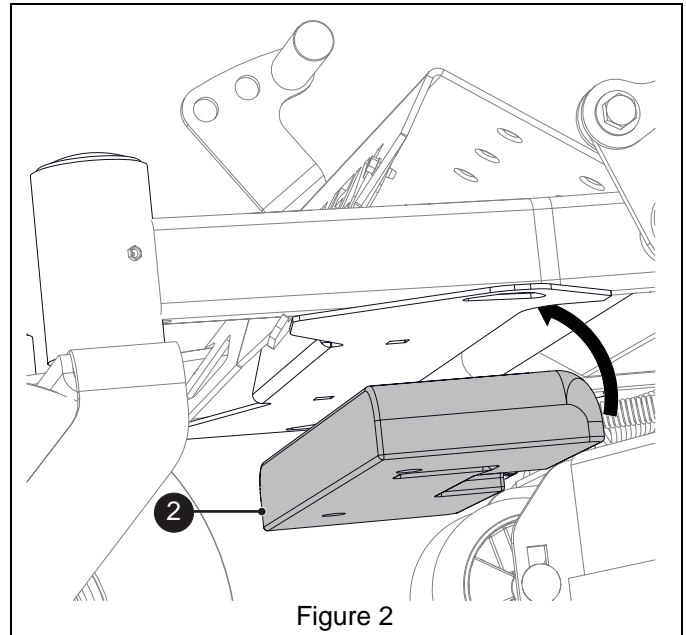

Figure 2
1. From under machine position cast iron weight (item 2) on top of crossmember below footplate. See Figure 2.